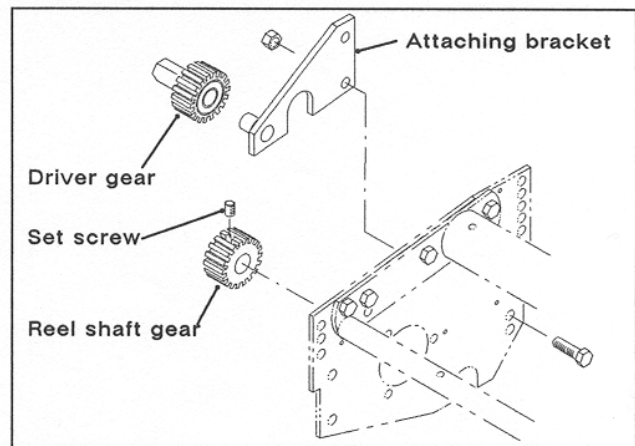

Figure 2
4. Using (2) new capscrews (included in kit) and (2) locknuts previously removed, mount appropriate attachment plate (left or right) to rear roller bracket and cutting unit side plate positioning as shown in figure 2. Do not tighten fasteners at this time.